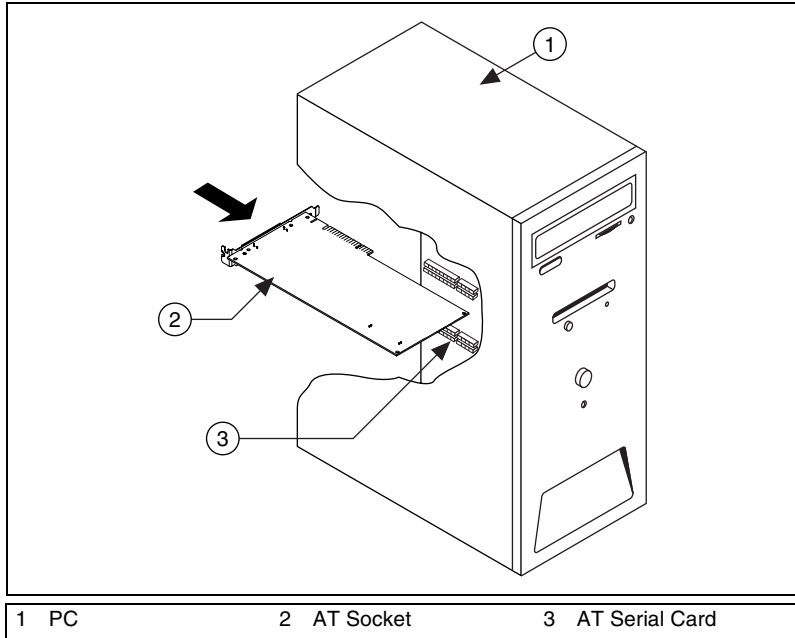

Figure 6-9. AT Serial Board Installation
4. Insert the AT serial board into an unused slot with the serial connectors sticking out of the opening on the back panel. Make sure that you insert the board all the way into the slot. The board may seem to click firmly into place, even though it is only part of the way in. Figure 6-9 shows the installation of an AT serial board.